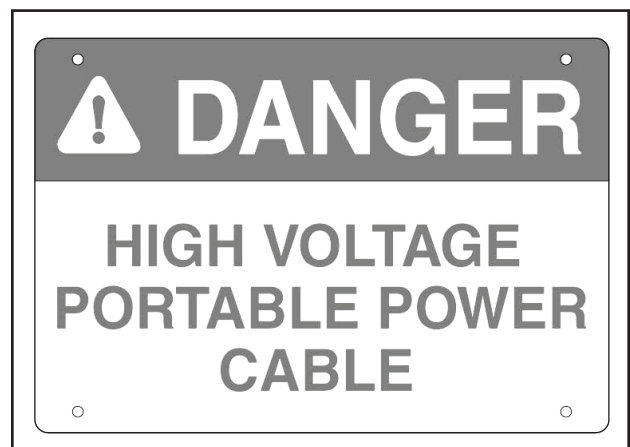

Figure 73-1 Danger Sign
1. Ensure that the danger signs are in place and visible at each end of the travel lane. See figure 73-1.